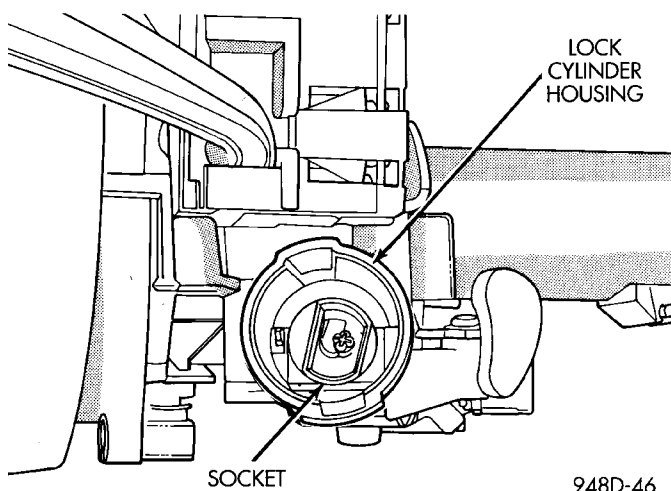

Fig. 46 Socket in Lock Cylinder Housing
(2) The shaft at the end of the lock cylinder aligns with the socket in the end of the housing. To align the socket with the lock cylinder, ensure the socket is in the Run position (Fig. 46).